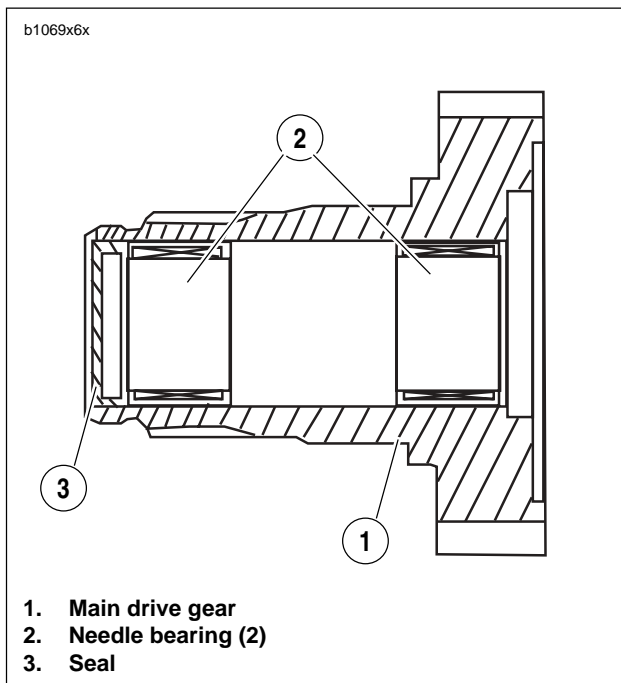

Figure 6-68. Main Drive Gear Assembly
3. See Figure 6-68. From inside case tap out seal at end of mainshaft 5th gear. Discard seal.